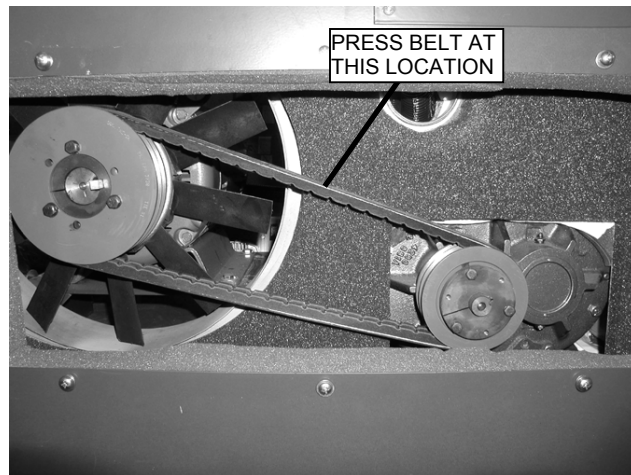

Figure 19. Blower Drive Belt Adjustment.
- d. Check the belt tension by pressing one of the belts at the mid-point and measuring the force required to deflect the belt 0.30 inches. The force required should be 9-12 pounds for a used belt and 12-15 pounds for a new belt. Refer to Figure 19.